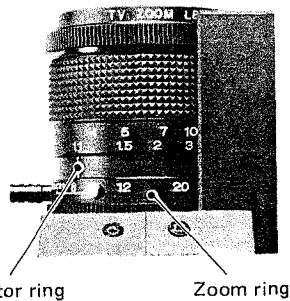

Fig. 1 Zoom lens (top view)
1. Set the zoom ring at the position of "48" (Stopper position) as shown in Fig. 1.